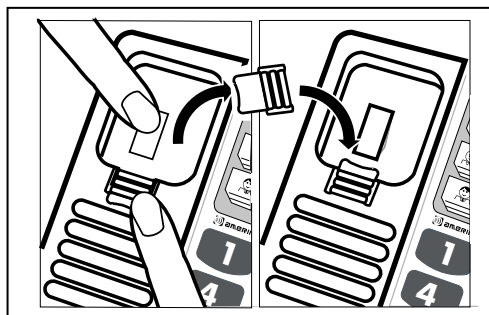

Figure 4 - Handset hook change
1. Pull the handset hook out and reverse its position so that the hook points up and will hold the handset when you hang up as shown in figure 4.